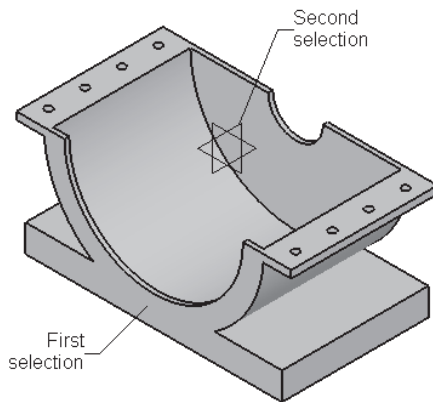

Figure 11-65 First and second elements to be selected
- c. Insert the Lower Housing into the assembly as the base component, set its orientation, and apply the **Fix** constraint to it at its default location, refer to Figures 11-65 through 11-67.
3. Choose the **Snap** button from the **Move** toolbar. Select the first element and the second element, as shown in Figure 11-65. The orientation of the Lower Housing is changed and a flip arrow is displayed on it.